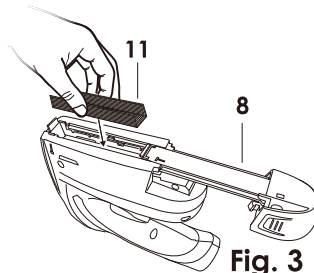

Fig. 3
Load staples (11) into the magazine channel. (Fig 3) Close the Magazine until it clicks into place.